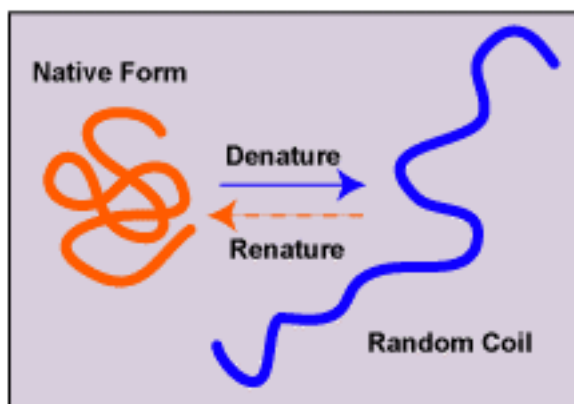

Figure 2.7. A figure showing the process of denaturation. The polypeptide chain has lost its higher order structure and is now a random coil.
- Proteins can **denature**, or unfold so that their three dimensional structure is altered but their primary structure remains intact.(Figure 2.7) Many of the interactions that stabilize the 3-D conformation of the protein are relatively weak and are sensitive to various environmental factors including high temperature, low or high pH and high ionic strength. Protein vary greatly in the degree of their sensitivity to these factors. Sometimes proteins can be renatured but often the denaturation is irreversible.